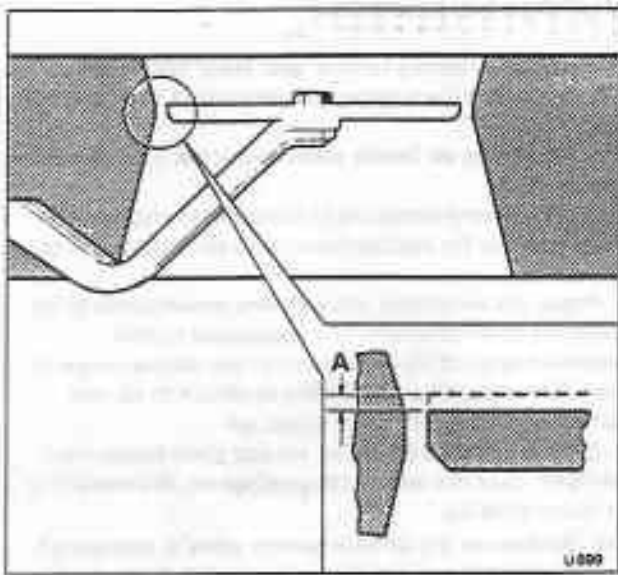

Fig. B2-25 Checking the height of the air flow sensor plate
7. The upper edge of the sensor plate adjacent to the fuel distributor, should be flush with the beginning of the upper cone as shown in figure B2-25.